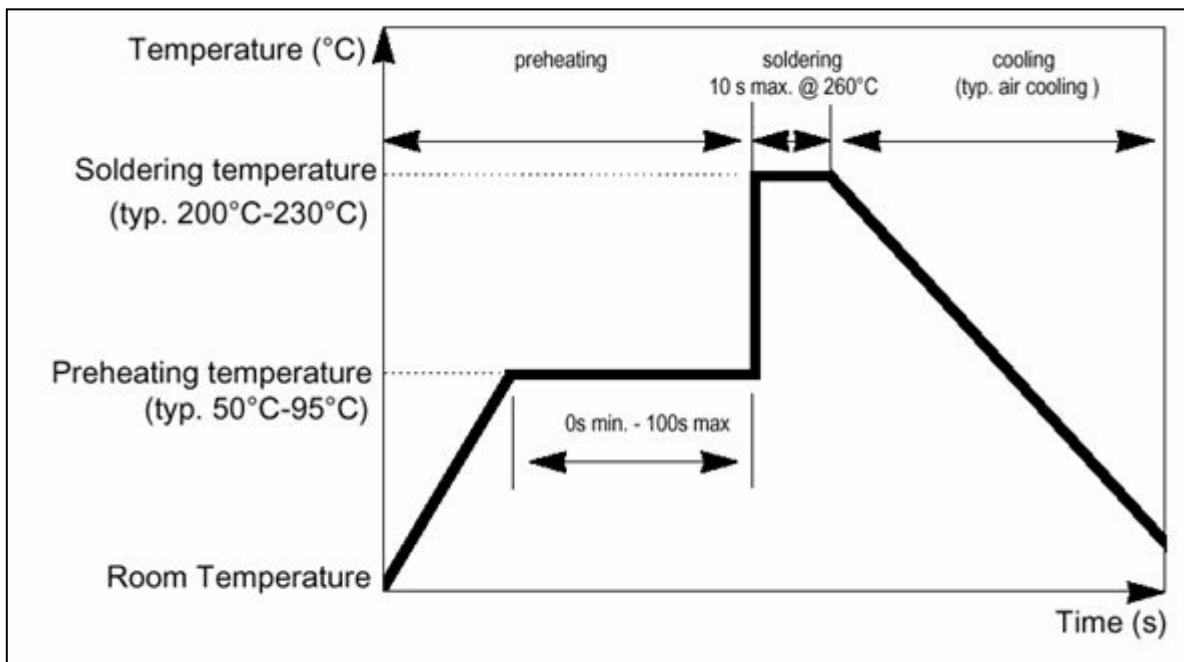

Figure 4 – Wave soldering profile
- do not exceed the maximum wave soldering profile of figure 4;